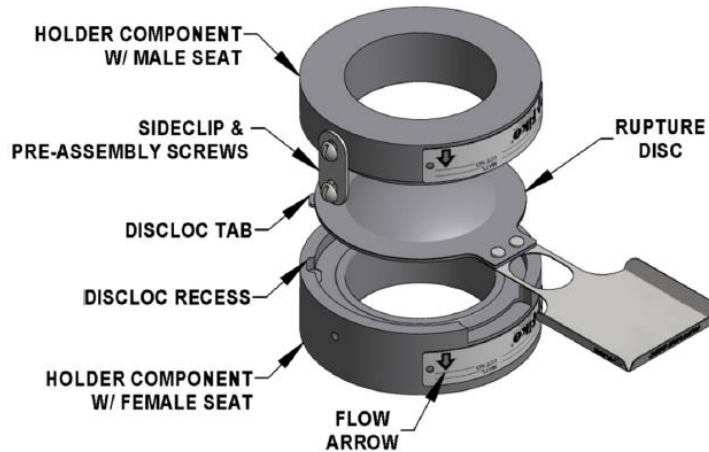

Figure 4 - Insert Holder
1. Place holder component with female seat on a work surface (See Figures 4, 5 and 6).